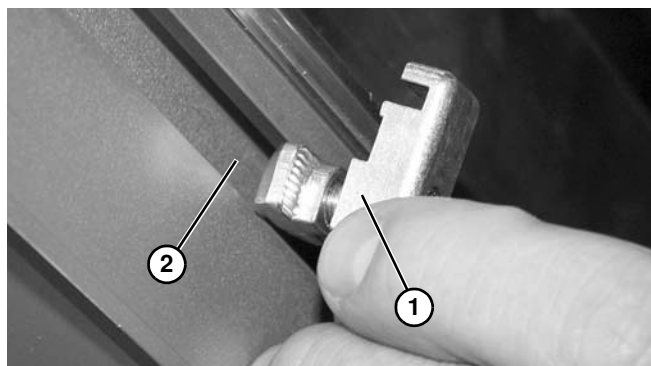

Figure 20
1. Install guide clip assembly (**Figure 20, item 1**) into conveyor t-slot (**Figure 20, item 2**) as shown.